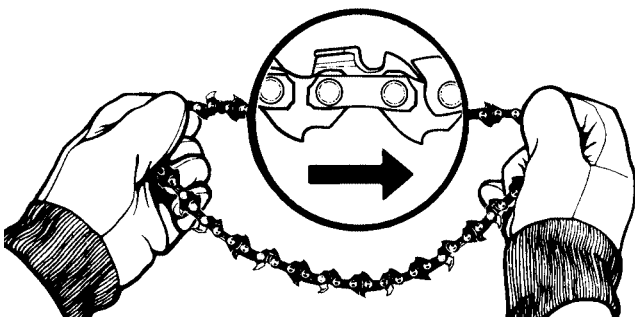

Fig. 9
4. Loop the saw chain over the drive sprocket with the cutting edges of the chain pointing in the direction of rotation (Fig. 9).